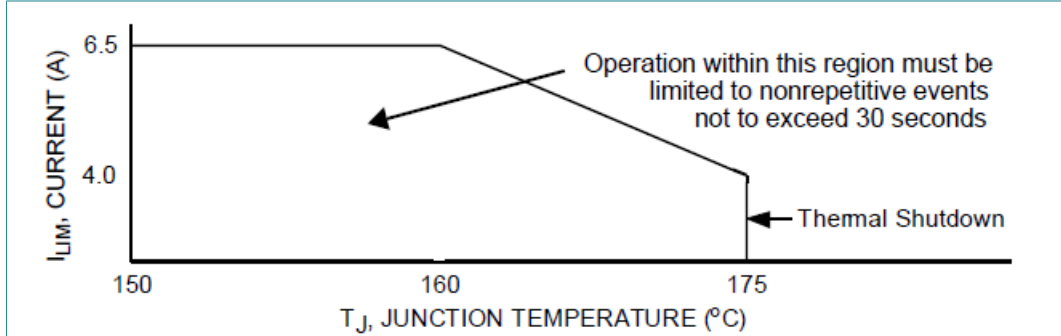
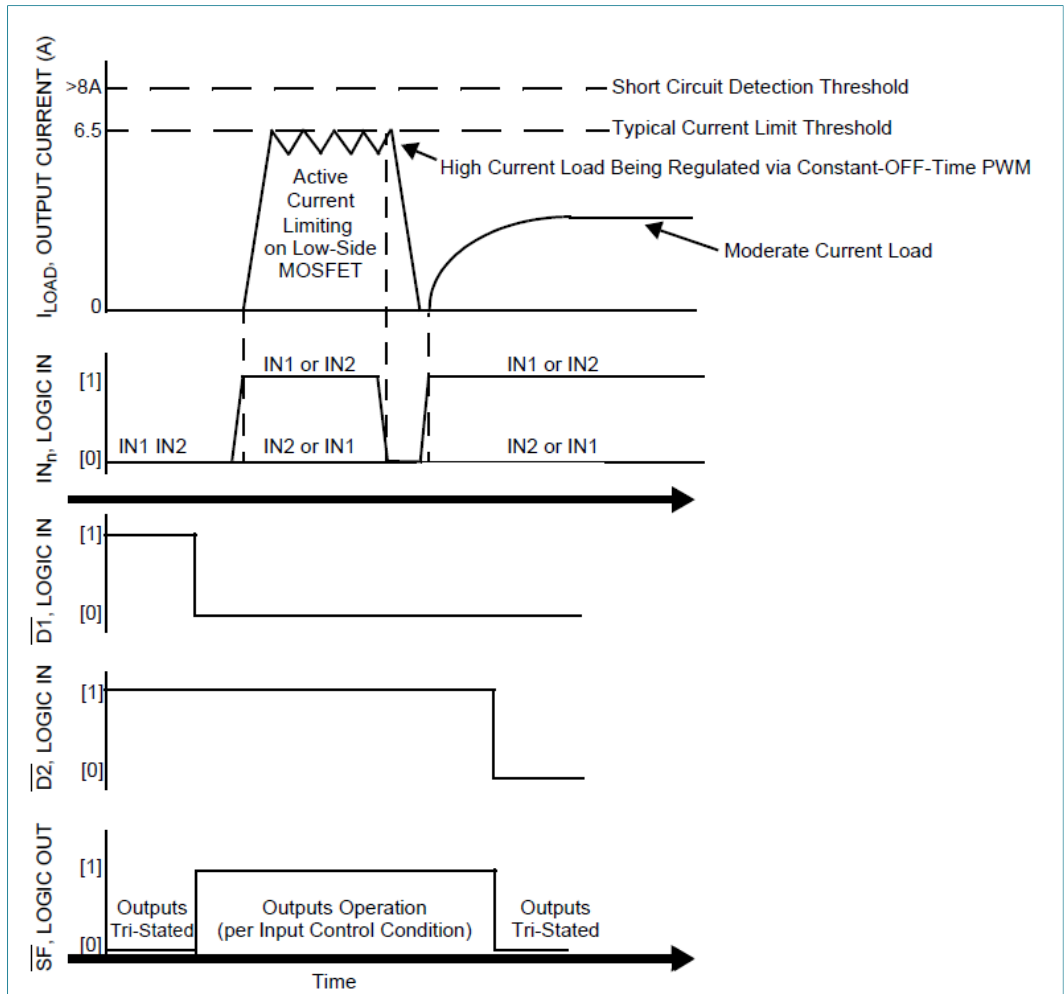
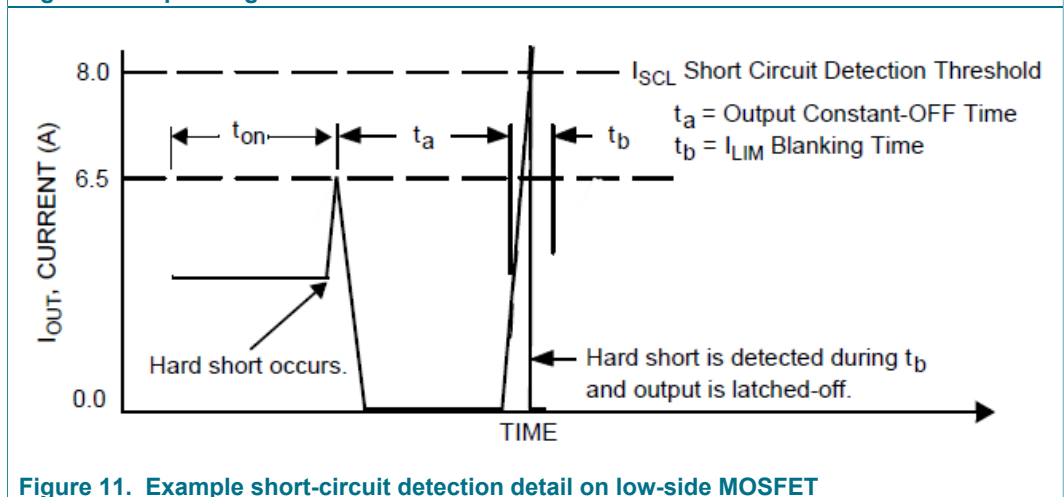

Figure 9. Active current limiting versus temperature (typical)
Figure 10. Operating states
Figure 11. Example short-circuit detection detail on low-side MOSFET
- [5] Load currents ramping up to the current regulation threshold become limited at the  $I_{LIM}$  value. The short-circuit current possess a di/dt that ramps up to the  $I_{SCH}$  or  $I_{SCL}$  threshold during the  $I_{LIM}$  blanking time, registering as a short-circuit event detection and causing the shutdown circuitry to force the output into an immediate 3-state latch OFF. See Figure 10 and Figure 11. Operation in current limit mode may cause junction temperatures to rise. Junction temperatures above  $\sim 160\text{ }^\circ\text{C}$  causes the output current limit threshold to progressively foldback, or decrease with temperature, until  $\sim 175\text{ }^\circ\text{C}$  is reached, after which the  $T_{LIM}$  thermal latch OFF occurs. Permissible operation within this foldback region is limited to nonrepetitive transient events of duration not to exceed 30 seconds. See Figure 9.
A disable timer (time  $t_b$ ) used to detect currents that are higher than current limit is activated at each output activation to facilitate hard short detection (see Figure 11).
The maximum current flow under normal operating conditions is internally limited to  $I_{LIM}$  (5.2 A to 7.8 A). When the maximum current value is reached, the output stages are 3-stated for a fixed time ( $t_a$ ) of 20  $\mu$ s typical. Depending on the time constant associated with the load characteristics, the current decreases during the 3-state duration until the next output ON cycle occurs (see Figure 11 and Figure 14).
The current limiting threshold value is dependent upon the device junction temperature. When  $-40\text{ °C} \leq T_J \leq 160\text{ °C}$ ,  $I_{LIM}$  is between 5.2 A to 7.8 A. When  $T_J$  exceeds 160 °C, the  $I_{LIM}$  current decreases linearly down to 4.0 A typical at 175 °C. Above 175 °C the device overtemperature circuit detects  $T_{LIM}$  and overtemperature shutdown occurs (see Figure 9). This feature allows the device to remain operational for a longer time but at a regressing output performance level at junction temperatures above 160 °C.